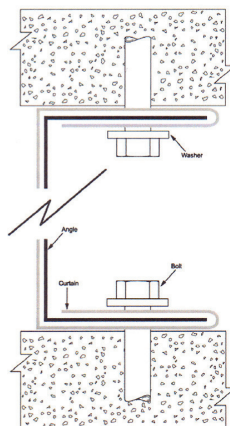

Figure 1
2. Fold edge of curtain around a mild steel framing angle with dimensions of 40 mm x 50 mm x 0.8 mm $\leq$ 1mm. As shown in figure 1.
5. Secure the top perimeter framing angle, followed by fixing and side perimeter angles, as specified above. N.B. The curtain must cover three sides of the angle, as shown in Figure 1.